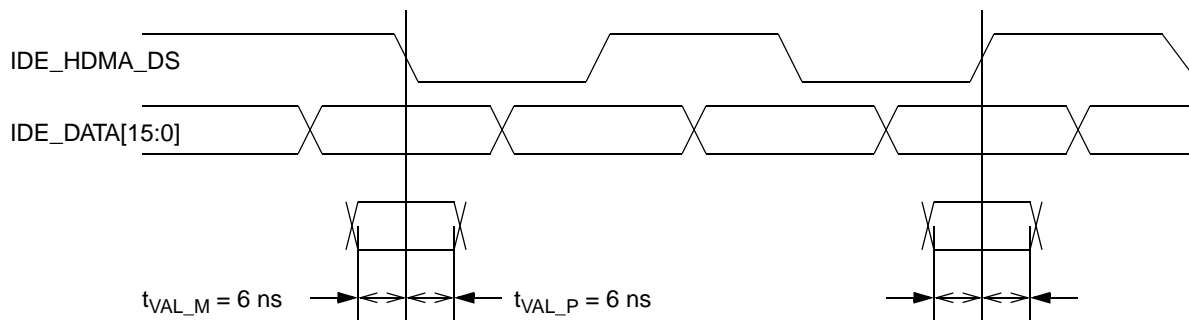

Figure 6-6. IDE UltraDMA Data Out Timing
- Note 3. This signal uses *Output Reference Timing* (see Figure 6-3 on page 531). Figure 6-6 illustrates IDE_HDMA_DS and IDE_DATA[15:0] relationship.